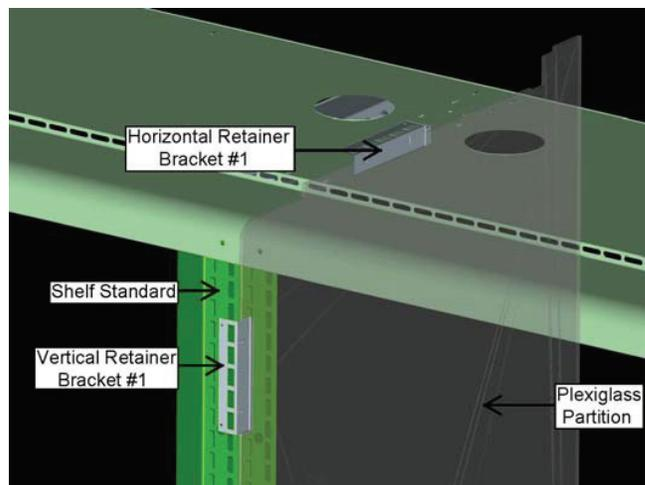
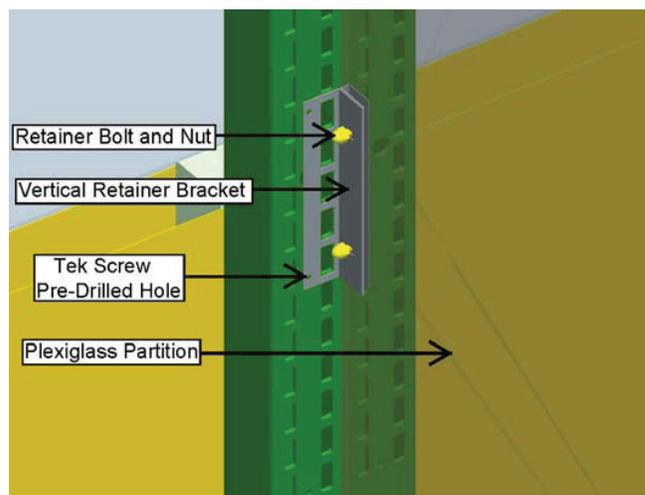

Figure 1: Top of Plexiglas Partition
Figure 3: Vertical Retainer Bracket Installation
**Step 1:** Mount the two vertical retainer brackets to the shelf standard (figures 1 & 2) using the supplied tek screws (8-18x3/4). The rectangular cutouts in the retainers must align with the rectangular slots in the shelf standard. Vertical Retainer Bracket #1 should be located below the 3rd slot from the top and Vertical Bracket #2 should be located above the 6th slot from the bottom. The grooves in the vertical retainer brackets must be centered on the case to case joint. The tek screws are to be drilled through the pre-drilled holes in the retainer brackets as shown in figure 3. Note that the vertical and horizontal retainer brackets are identical.
**Step 2:** Slide the Plexiglas partition into the vertical retainer brackets. Use the supplied retainer bolts and nuts (8-32x1/2) to secure the Plexiglas partition to the vertical retainer brackets as shown in figure 3. Drill additional holes in the Plexiglas if the pre-drilled holes in the Plexiglas do not line up with the holes in the retainer brackets.